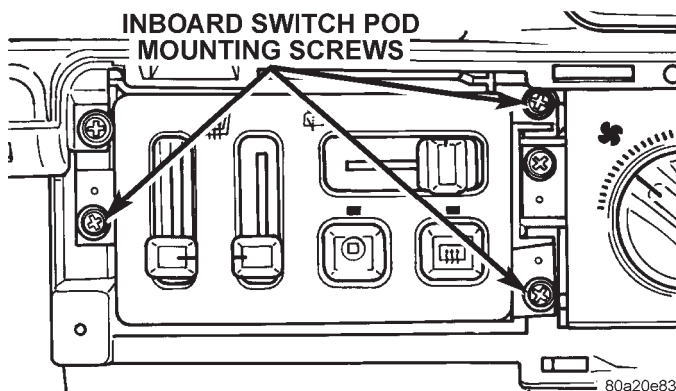

Fig. 11 Inboard Switch Pod Remove/Install
(1) Remove the cluster bezel from the instrument panel. See Cluster Bezel in this group for the procedures.
(2) Remove the two screws that secure the inboard switch pod to the instrument panel (Fig. 11).